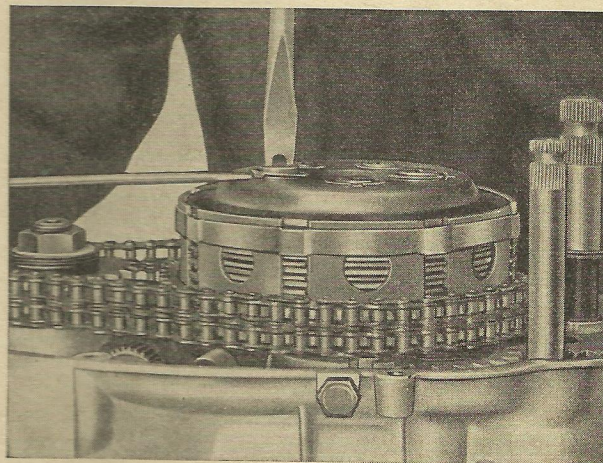

Fig. 3: Unscrewing the collar nuts
1. Unscrew the five collar nuts retaining the clutch springs, using a screw-driver with recess. For this purpose the spring retainers must be lifted from their retaining grooves by means of another screw-driver (see fig. 3). Remove clutch thrust plate and clutch discs. Take out compression pins and ball.